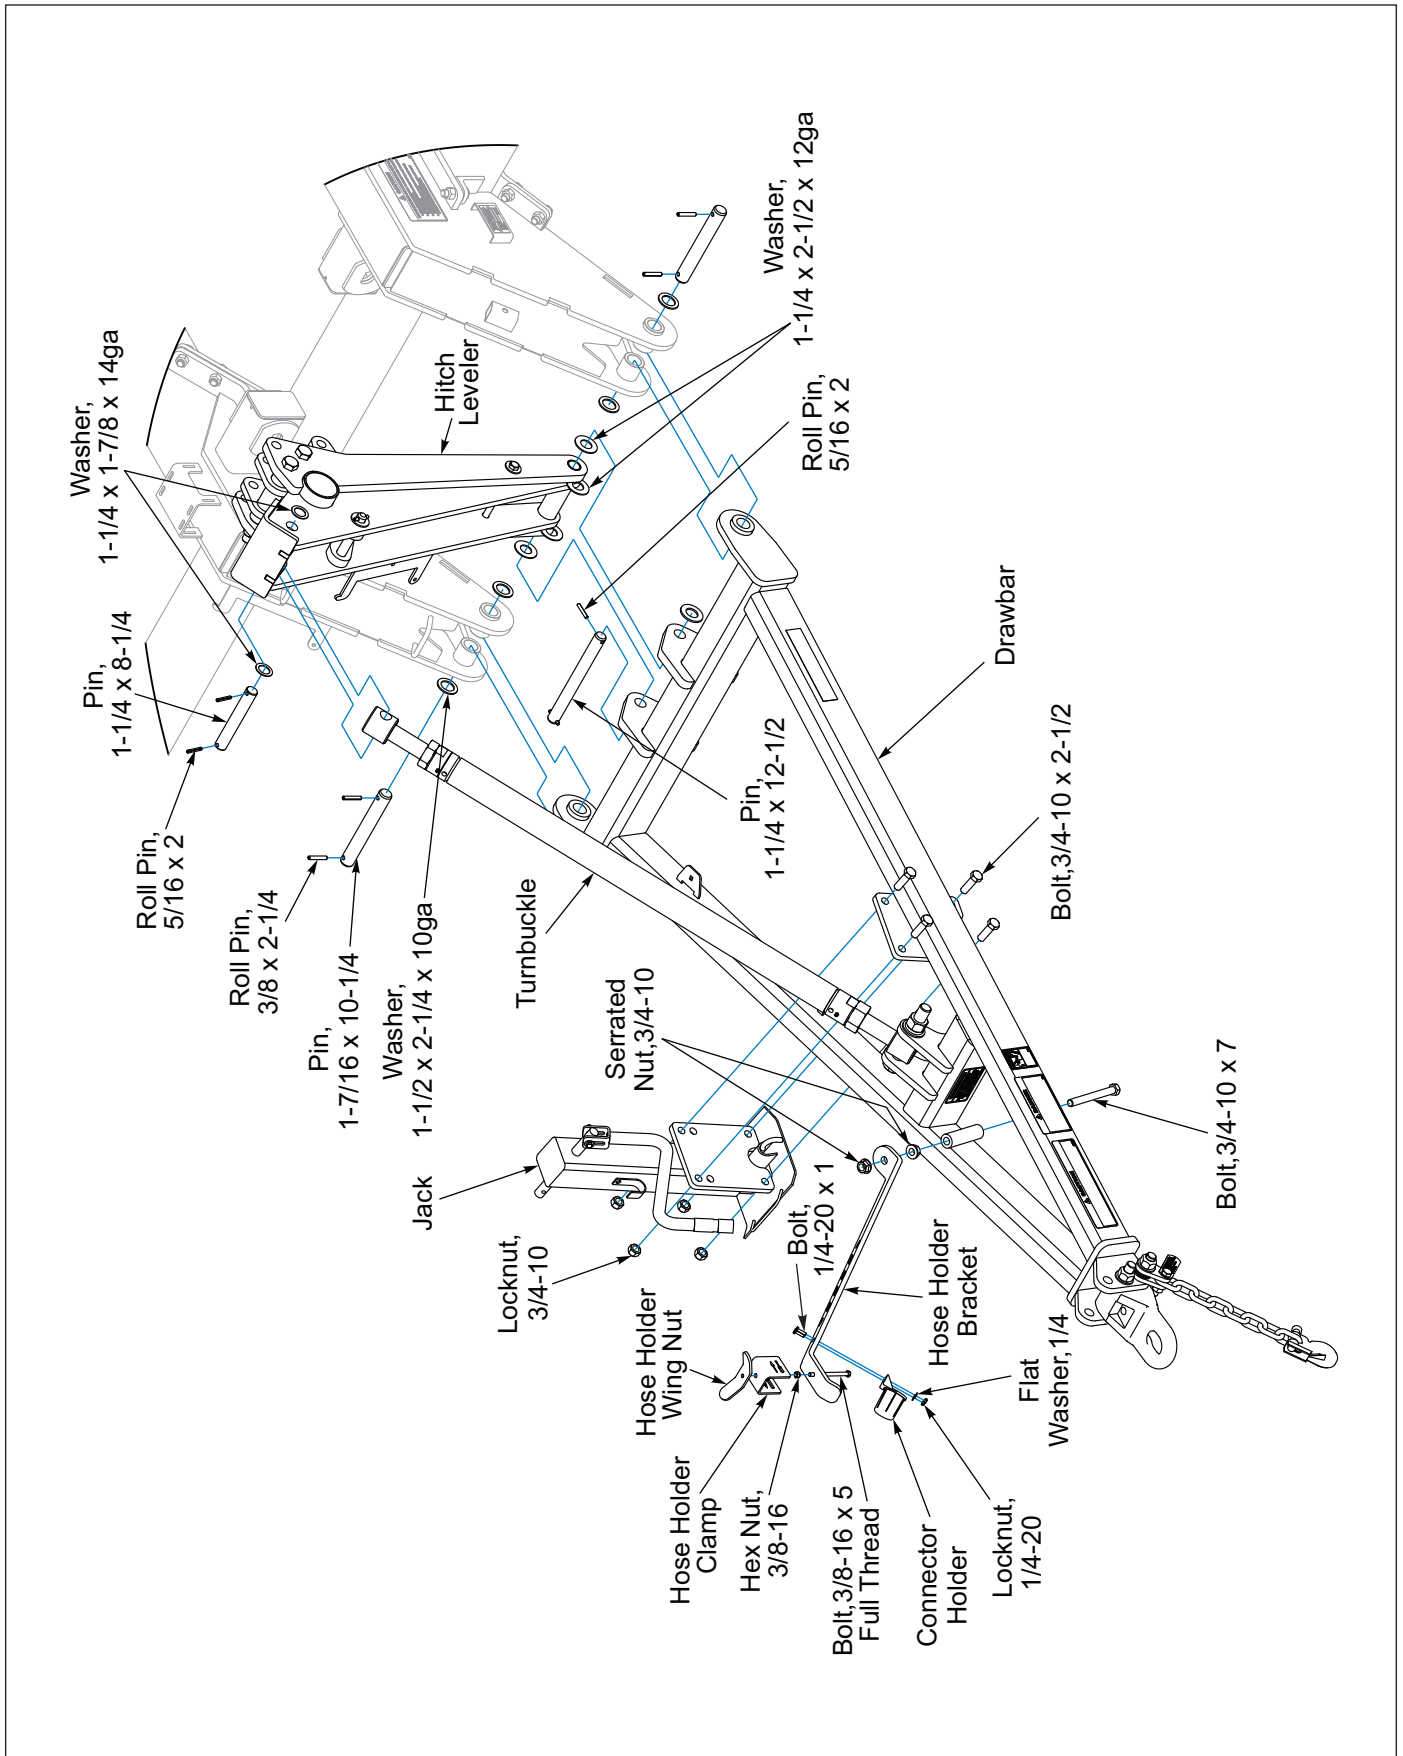

Figure 2-9: Drawbar Installation
1. Position the Hitch Leveler between the center lugs and reinstall the 1-1/4 x 12-1/2 Pin, 1-1/4 x 2-1/2 12ga Washer and 1-1/4 x 2 Roll Pin. **See Figure 2-9.** Attach the bottom of the Hitch Leveler to the Drawbar by removing the 5/16 x 2 Roll Pin, 1-1/4 x 2-1/2 12ga Washer and 1-1/4 x 12-1/2 Pin.